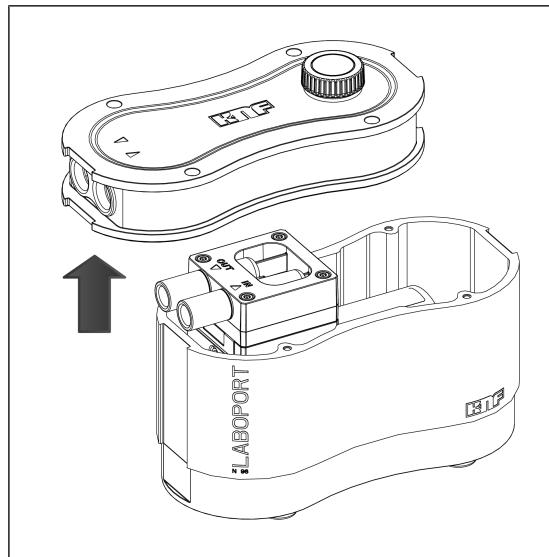

Fig.9: Removing the housing cover
3. Carefully remove the housing cover (2) and place it next to the pump housing (3) (see Fig. 9).